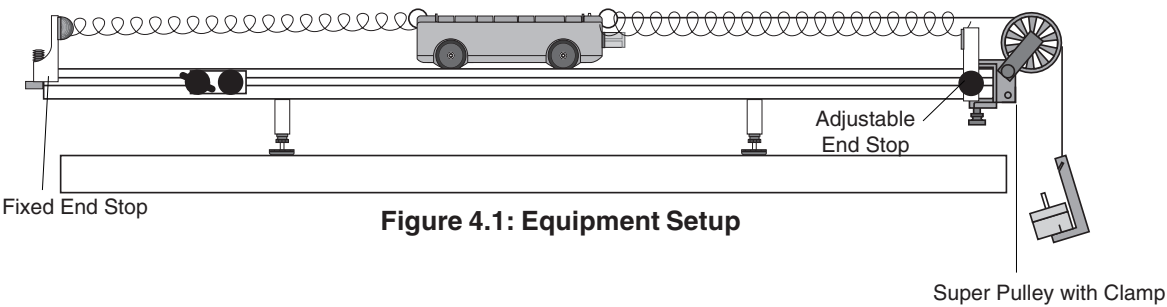

Figure 4.1: Equipment Setup
3. Set the car on the track, and attach a spring to each end of the car by inserting the end of the spring in the hole provided in the car. Then attach the other ends of the springs to the endstops (See Figure 4.1).